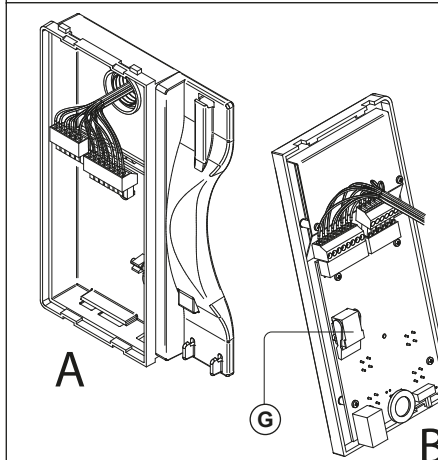

Fig. 4
3. Fix the plate to the flush mounting box using the screwdriver provided (torx end) and the pin machine torx screws (**Fig. 4**).